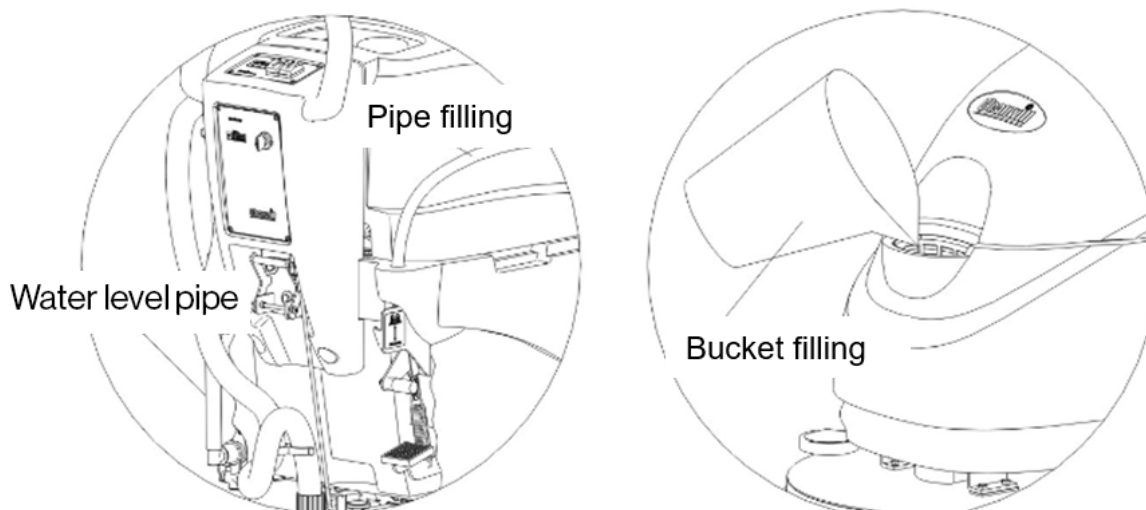

Figure 3
3. Fill the solution tank with clean water, add detergent according to the floor status. There are 2 ways for water filling (see figure 3)